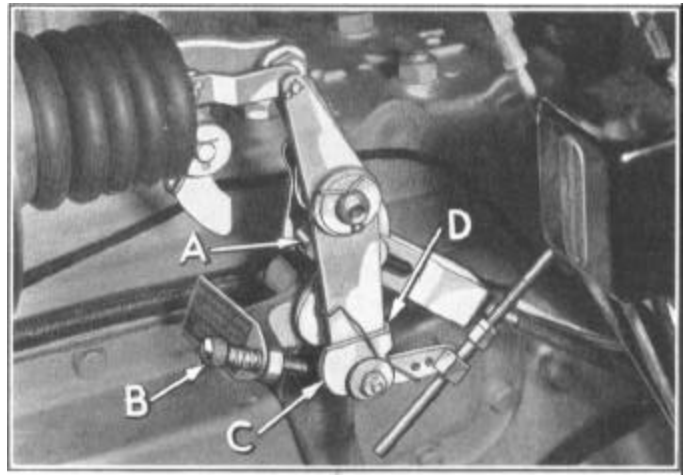

Figure 5
Securely block the wheels and start the engine. (Do not set the brakes.) Accelerate the engine several times while manually engaging and disengaging the clutch. This action tends to dry the clutch disc. Swing the compensator pin (A) (Figure 5) rearward and turn the cushion point stop screw (B) clockwise (in) until it meets the cam (C). With the transmission in low gear, hold cam (C) against stop screw (B) by pressing forward at point (D). At the same time slowly turn stop screw counter-clockwise (out) until the car shows a distinct tendency to move forward. This gives the cushion point or point where the clutch disc begins to "drag" against the flywheel.
Hold the accelerator down until cam (C) (Figure 5) just touches the stop screw (B) as in previous operation. This can be done by wedging the accelerator bell crank away from the toe board by inserting a drift, screw driver or wooden wedge behind the upper arm of the bell crank. Do not attempt to open the throttle at any other point, because that would change the relationship between the throttle and clutch valve linkages.